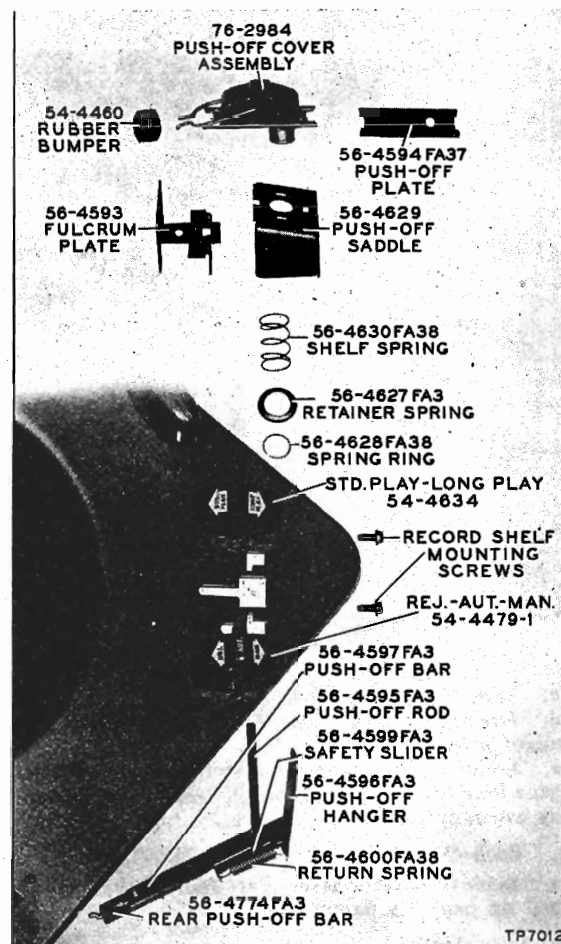

Figure 27. Record-Shelf Assembly
- Align ears on record-shelf assembly with cut out on base plate. Lift out record-shelf assembly. The record-shelf assembly is shown in figure 27.